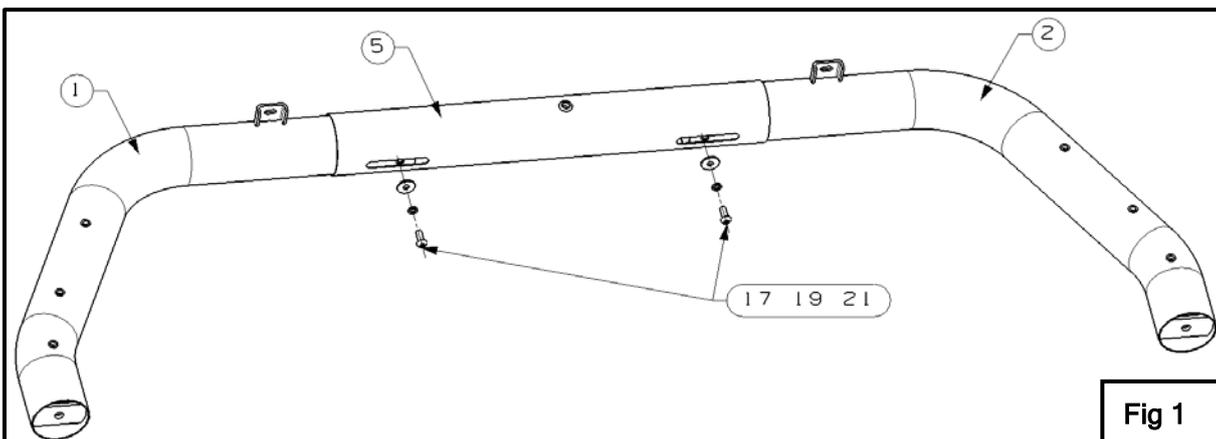
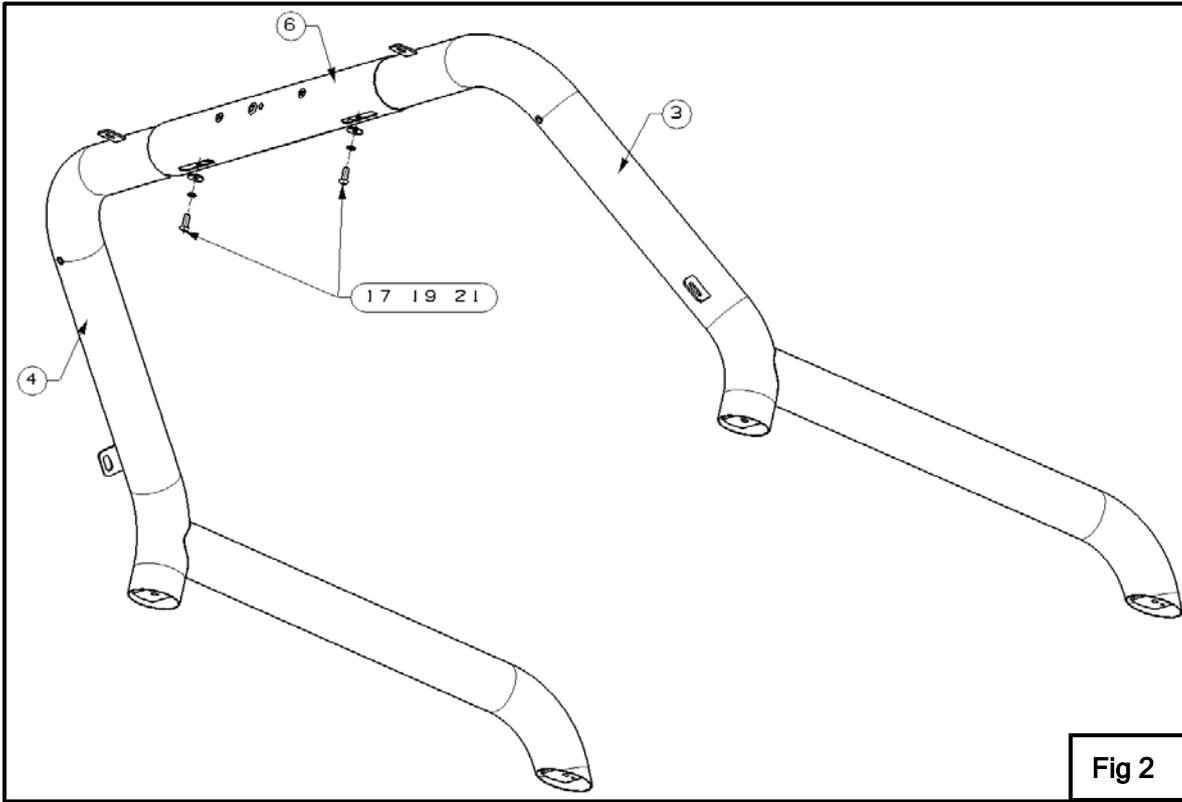

Fig 1
Fig 2
Use standard ①⑦ ①⑨ ②① to connect ⑤ with ① ② as Fig 1 shows. Do not fasten the hardware.
Use standard (17) (19) (21) to connect (6) with (3) (4) as Fig 2 shows. Do not fasten the hardware.
Use standard (14) (15) (20) to connect Fig1 & Fig2 assemblies as Fig 3 shows. Do not fasten the hardware.